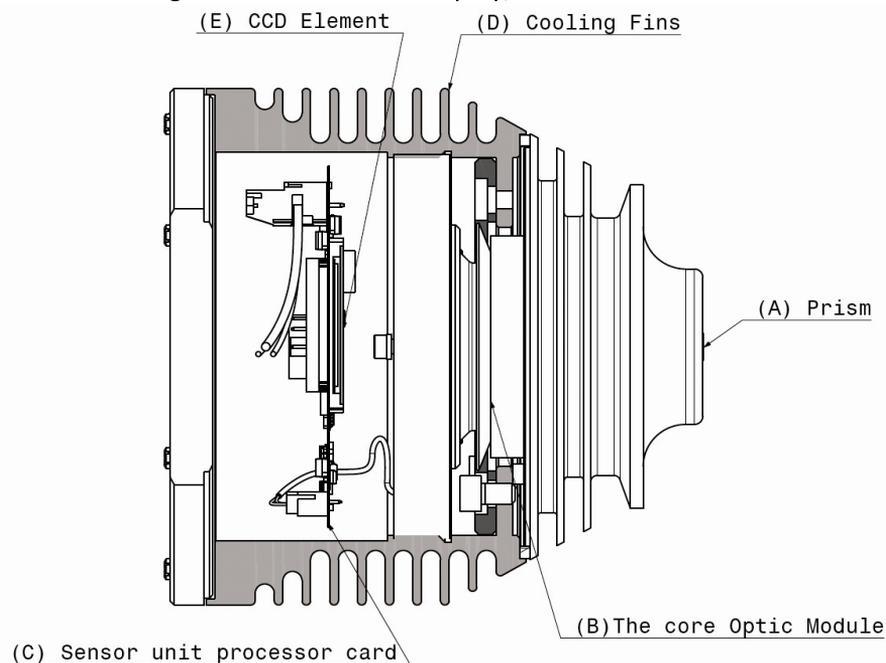

Figure 2-1 Sensor Structure
Figure 2-1 below shows a picture of a **PrismaTech®** inline refractometer sensor showing the basic description of general parts of **PrismaTech®** inline refractometer which is applicable for all models of **PrismaTech®** inline refractometer. The measurement prism (A) is flush mounted to the surface of the probe tip. The prism (A) and all the other optical components are fixed to the solid core module (B), which is springloaded against the prism gasket. The light source inside the CoreOptic module (B) is a yellow Light Emitting Diode (LED), and the receiver is a CCD element (E). The electronics is protected against process heat by the cooling fins (D). The sensor processor card (C) receives the raw data from the CCD element (E) and the Pt-1000 process temperature probe then calculates the refractive index n_D and the process temperature T . This information is transmitted to the Indicating transmitter called Display/Control unit.